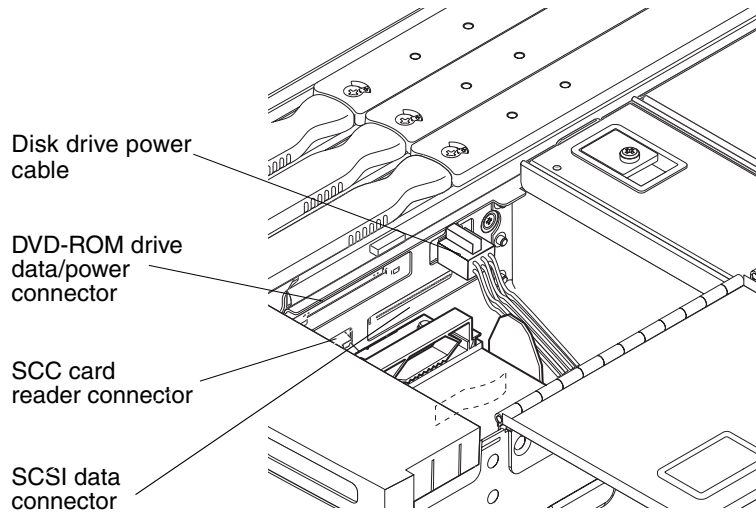

FIGURE 6-16 IB_SSC Assembly Cable and Connector Locations
3. Disconnect the DVD-ROM drive data/power cable from the IB_SSC board and from the DVD-ROM drive (FIGURE 6-16).
6. Reconnect the DVD-ROM drive data/power cable to the IB_SSC board and to the DVD-ROM drive (FIGURE 6-16).